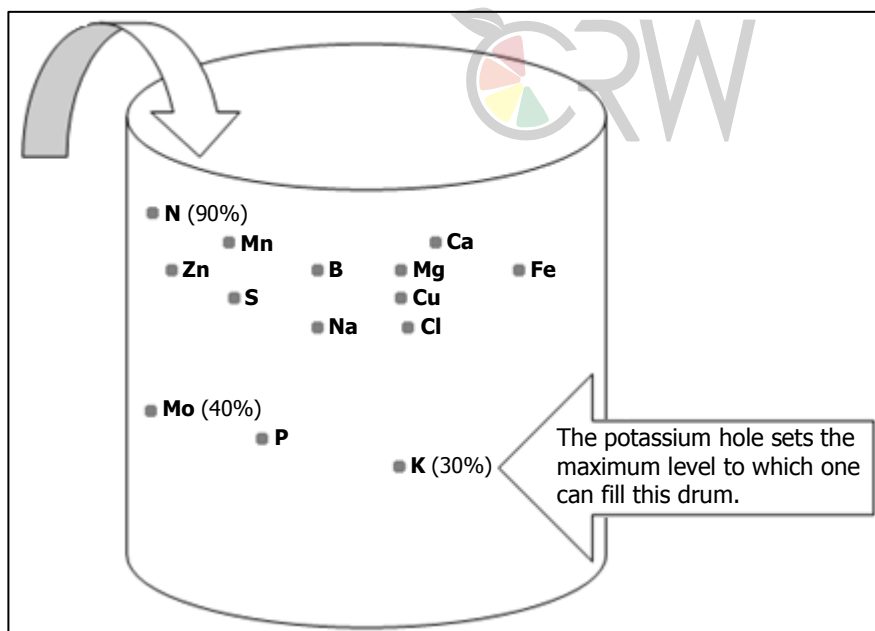

Figure 4.1: Illustration of Most Limiting Essential Nutrient Element
This effect can be illustrated by trying to fill a drum or barrel with holes at various levels in its side. Each hole represents the percentage of the optimal concentration of a nutrient element that is available to the plant. To fill the drum, one first has to block the lowest hole, representing the element that is at the lowest percentage of its optimum concentration, which in the illustration below (figure 4.1) is K. Thereafter, you can fill the drum to the level where phosphorus (P) becomes the most limiting element.
Getting the N level to 100% and not the K level will not enable the plant to produce at 100% capacity. Although molybdenum is required in very small quantities compared to nitrogen, the shortage of this element will still cause the plant to produce at only 40% of its capacity in the illustration (figure 4.1).